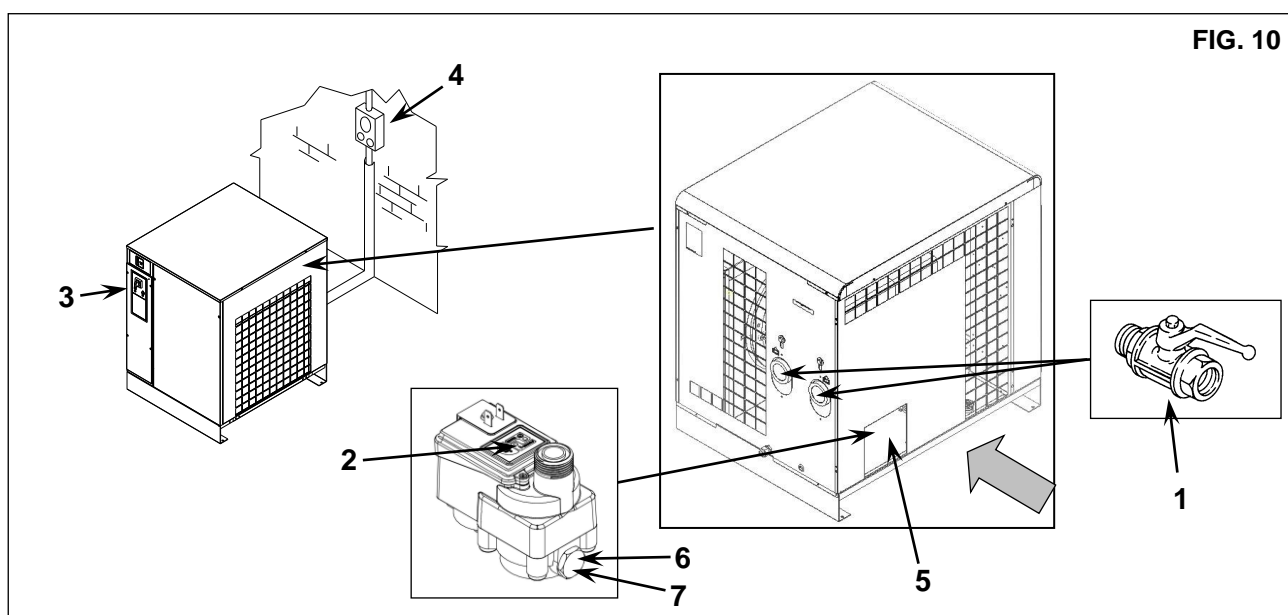

FIG. 10
#### 16.2 CLEANING OF THE AUTOMATIC CONDENSATE DISCHARGER FILTER (Fig. 10)
- Close the cock Ref. 1 Fig. 10
- Release the pressure in the dryer by pressing the condensate drain "TEST" pushbutton located on the steam trap Ref. 2 Fig. 10.
- Switch off the machine. Turn the switch in position STOP Ref. 3 Fig. 10
- Turn on the supply automatic differential switch Ref. 4 Fig. 10
### 16.3 CLEANING THE CONDENSER (Fig. 10)
- To use the hole Ref. 5 Fig. 10
- Clean the condenser fins Ref. 1 with compressed air (Fig. 10) **DO NOT USE WATER OR SOLVENTS**
- Close the panels Ref. 5 Fig. 10